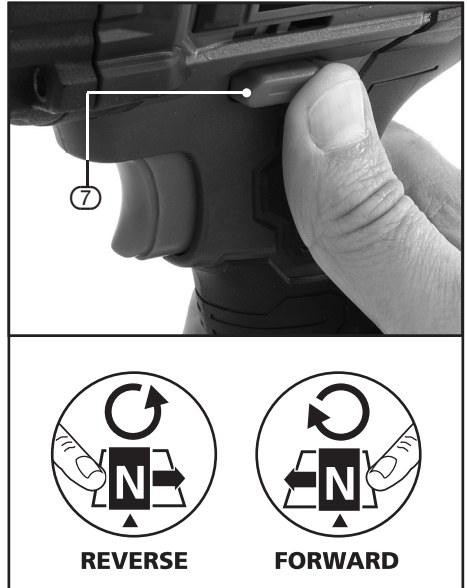

FIG.5
9.2 ROTATIONAL DRIVE SELECTION – FIG.5